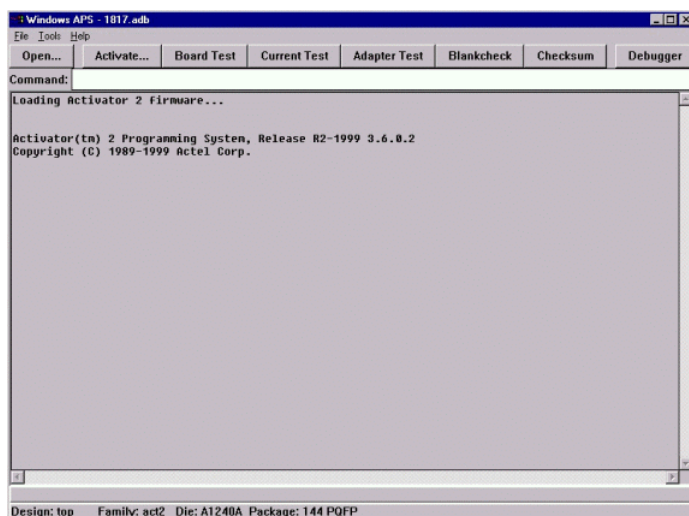

Figure 3-2 • Loading an *.adb File
6. Load an *.adb file to enable the test tabs. This displays the screen shown in Figure 3-2.